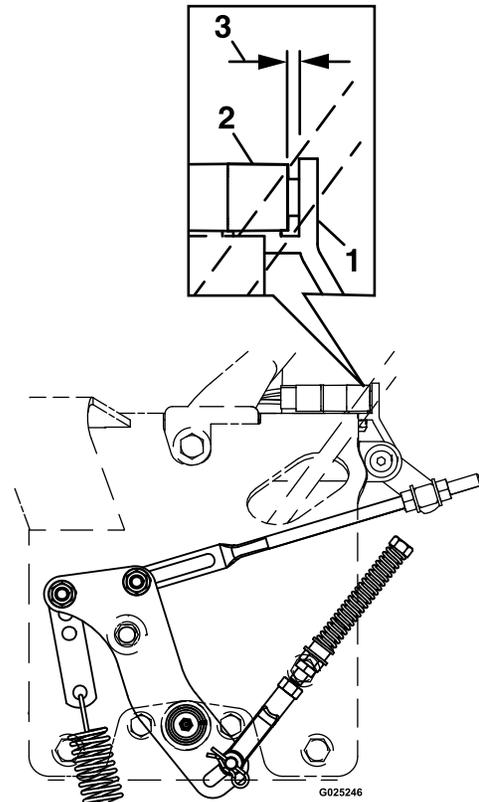

Figure 14
2. Pull the speed control lever back to neutral. Check that the neutral safety switch actuating tab has depressed the plunger of the switch so that there is no more than 3/16–1/4 inch (4.8–6.4 mm) between the tab and the switch (see Figure 14).